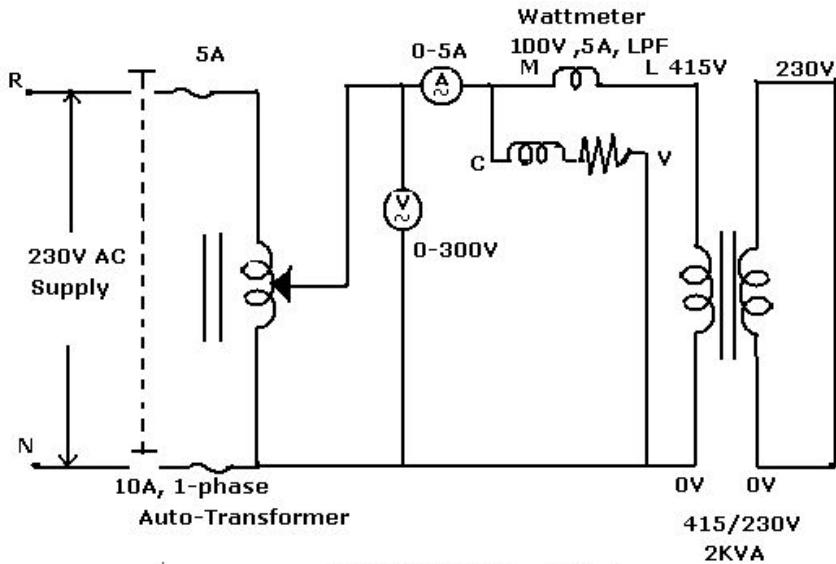

Fig.1.2:Short Circuit Test
- \* Connect the circuit diagram as shown in the figure 1.2